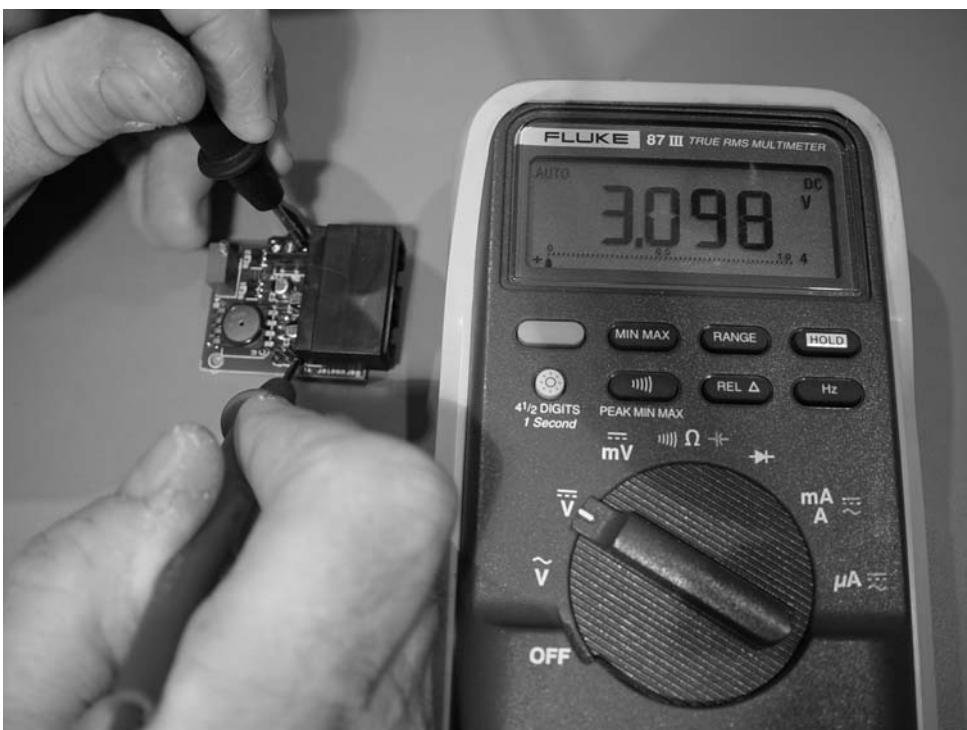

FIGURE 8-4: Using a voltmeter to set the offset voltage.
- c. Connect your voltmeter positive lead to the jumper block pin 1 and negative lead to power ground to measure offset as shown in Figure 8-4.